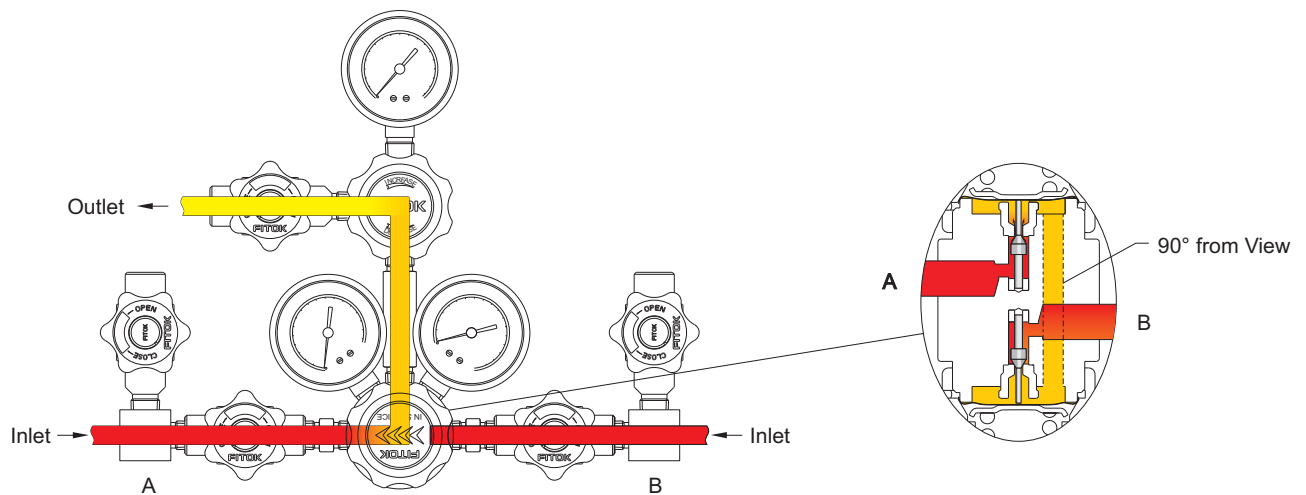

Fig. 2
*Fig. 2* If side A is chosen as the gas source, the handle should be turned clockwise until the "IN SERVICE" arrow is pointing at side A. At this time, the set pressure of side A is higher than the fixed outlet pressure of side B. Consequently, the diaphragm of side B regulator moves to enable the stem to close the regulator.